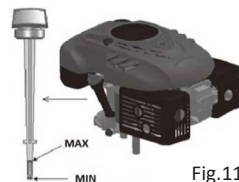

Fig. 11
- The drain plug is located under the engine (Fig. 11 - item 1).
- Place a suitable container under the engine to collect the used oil and remove the cap. Tilt the mower so that all the oil drains out of the oil tank. After draining the oil, replace the cap in the hole, making sure it is securely fastened, and wipe up any oil that has spilled (Fig. 11).
- Add SAE30 or 15W-40 oil to the oil container. When the oil level indicator is inserted into the hole and screwed in, the oil level should be between the Min and Max marks (Fig. 11). Do not overfill the container.